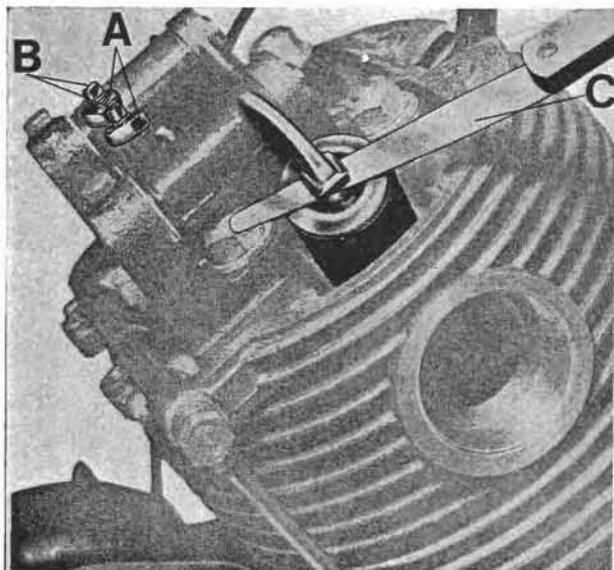

Fig. 54
Great care must be taken when adjusting tappet clearance, in order to avoid alterations to timing diagram. Excessive clearance will cause noisy valve operation, while absence of clearance will prevent complete valves closing, thus damaging same and their seats. Adjustment is made as shown on Fig. 54, operating as follows:
- with COLD ENGINE, undo nut (A) and screw in or out screw (B), bearing in mind that correct clearances are 0.1 mm. (.0039") to inlet valve and 0.2 mm. (.0078") to exhaust valve. Check clearance with a feeler gauge as shown on Fig. 54.